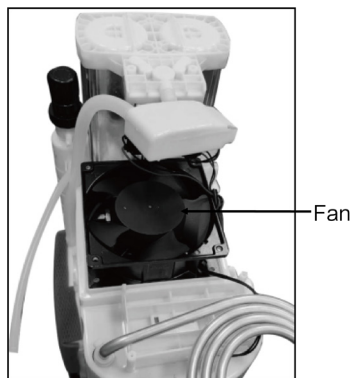

Figure 20
- ▶ Remove the heat exchanger, take off the fan. (Figure 20)